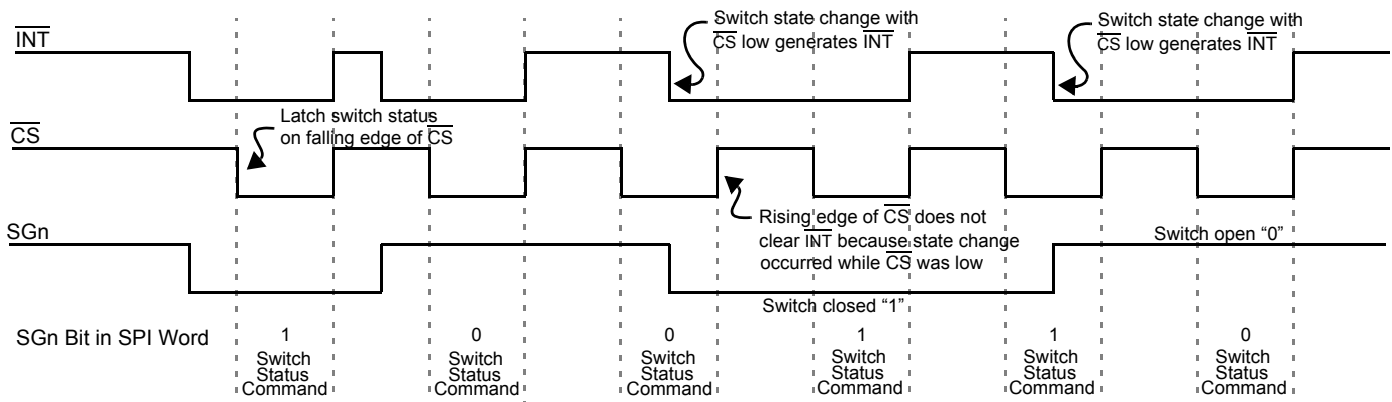

Figure 4. Normal Mode Interrupt Operation
2. $\overline{\text{INT}}$ pin is reset to logic [1], except when additional switch changes occur during CS low. (See Figure 4 on page 8.)
Figure 4, page 8, is a graphical description of the device operation in Normal mode. Switch states are latched into the input register on the falling edge of \overline{CS} . The \overline{INT} to the MCU is cleared on the rising edge of \overline{CS} . However, \overline{INT} will not clear on rising edge of \overline{CS} if a switch has closed during SPI communication (\overline{CS} low). This prevents switch states from being missed by the MCU.